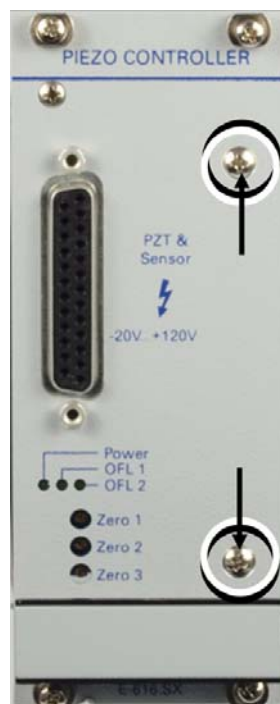

Figure 4: Fixation of heat sink to E-616 Controller module front
- Do also unscrew the two labeled cross-head screws on the front of the module, see Figure 4 below